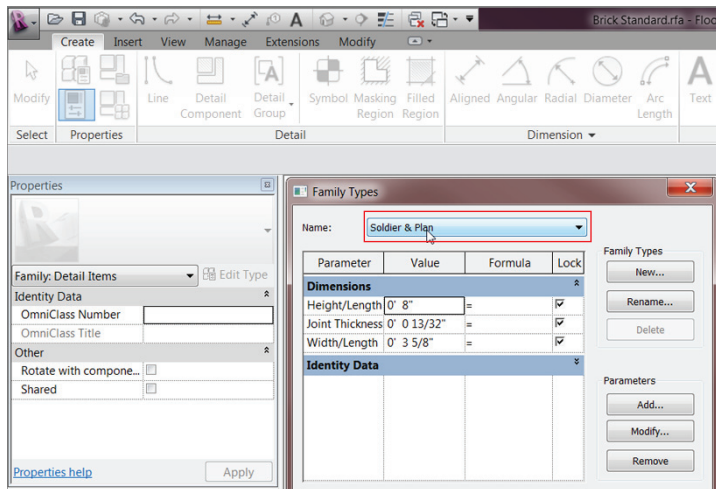

FIGURE 12.17: Cleaning out the extra types
3. Click the Family Types button, as shown in Figure 12.17.